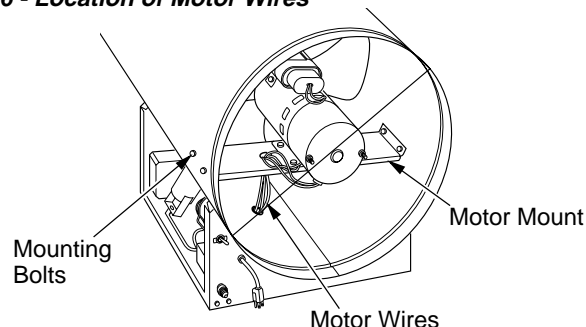

Figure 7 - Location of Fan and Motor
20. Route motor wires through hole in bottom of shell (see Figure 7, page 6).